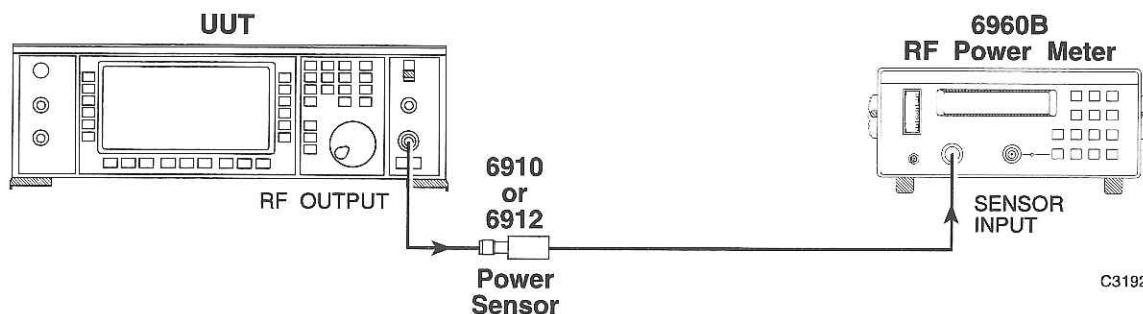

Fig. C-3 Equipment configuration for RF level calibration
- (1) Use the [MEM] function to recall memory number 50. This will restore the instrument to factory default settings.
- (2) Connect the test equipment as shown in Fig. C-3.
- (3) Press [UTIL], [Util. Menu 2], [Lock & Unlock]. Unlock the instrument to level 2, then press [UTIL], [Cal. Value], [DME RF Level]. The *DME RF Level Calibration Menu* is displayed.
- (4) Using the rotary control adjust the *New Calibration* figure until the level shown for *Cal Point 0* (960 MHz) on the power meter equals +8.00 dBm. Record the number in the table below.